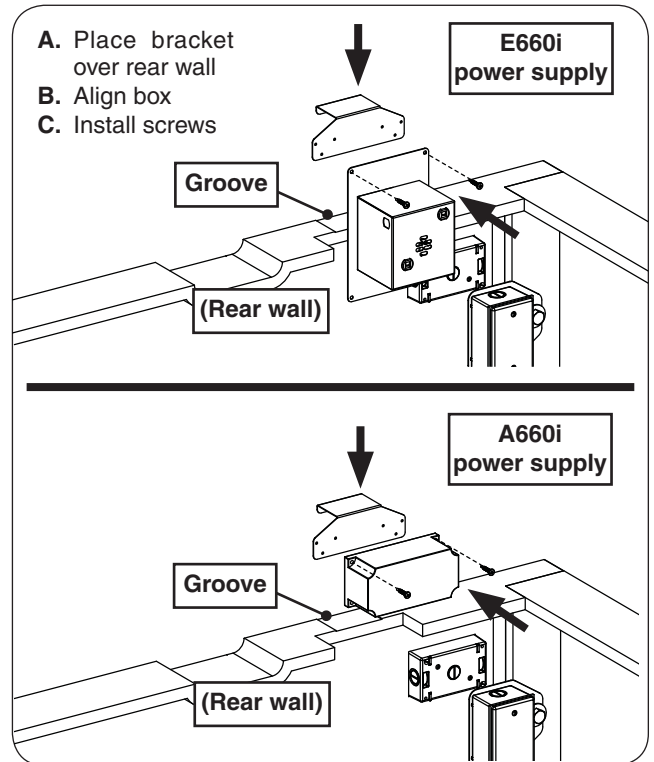

Fig. 11-1 Install power supply box
1. **First** place the power supply box bracket over the rear wall, in the groove just to the left of the right wall (see Fig. 11-1).
2. Align the pilot holes on the power supply box with the holes on the bracket, then insert the two Phillips screws and tighten with the power drill and #2 Phillips driver (see Fig. 11-1). **DO NOT OVERTIGHTEN.**